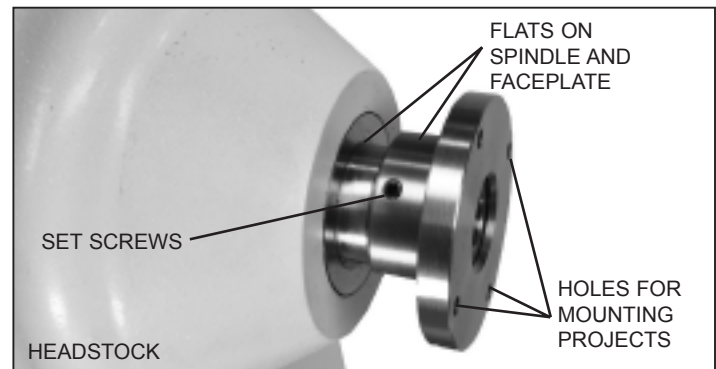

Fig.5.4.1
NOTE: there may be more than one set of set screws on the faceplate hub. Fig.5.4.1.
To **REMOVE** the faceplate, first loosen the set screws. The spindle and rear hub of the faceplate each have flats that are for use with open end wrenches. FIG. 5.4.1 Next, use the 2 extra large, double ended wrenches (V) (38mm/46mm) for holding the spindle and also to hold the back hub of the faceplate for removal of the faceplate. Use the same process for removing a chuck. Fig.5.4.2.